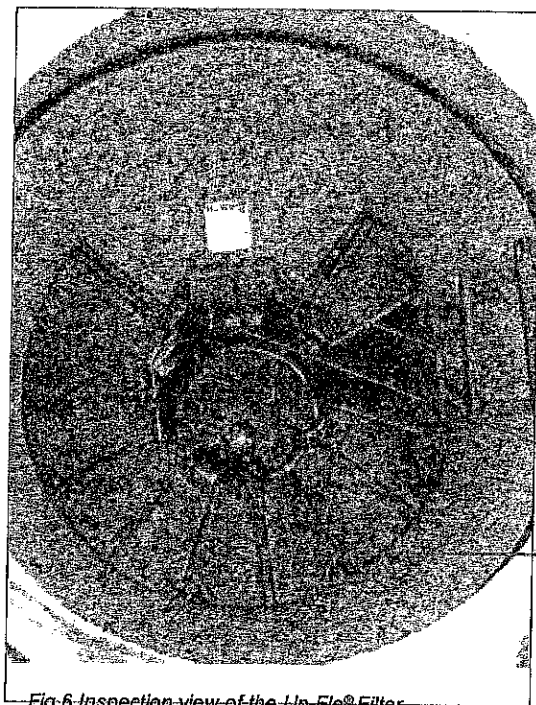

Fig.6 Inspection view of the Up-Flo® Filter.
3. Without entering the vessel, look down into the chamber to inspect the inside and to determine whether the high-water level indicator has been activated. Make note of any irregularities. See Fig.6 for a typical Inspection View.
7. On the Maintenance Log provided by Hydro International, record the date, unit location, estimated volume of floatables and gross debris removed, and the depth of sediment measured. Also note any apparent irregularities such as damaged components or a high standing water level (see Fig.6 for the standard standing water level).
10. Contact Hydro International at (800) 848-2706 to discuss any irregularities noted during inspection.